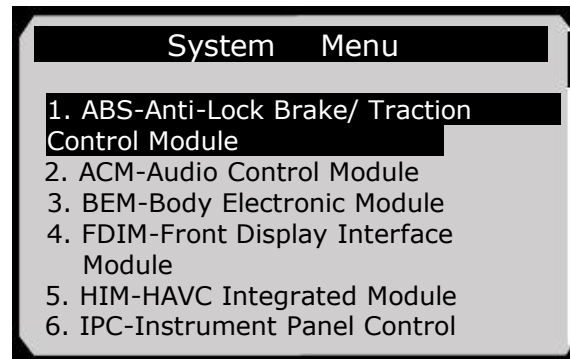

Figure 5.17
**NOTE:** The actual systems displayed in the **System Menu** screen may be different from Figure 5.17 due to various vehicle configurations.